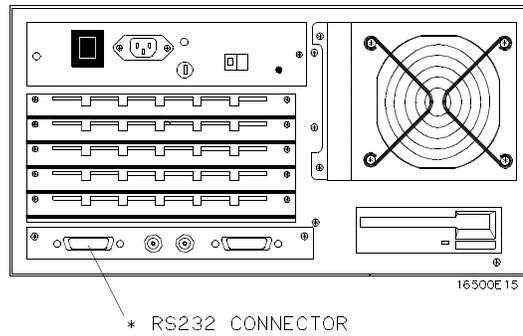

Figure 7-5. HP 16500A Rear Panel.
- The HP QuietJet series printers have two banks of mode function switches inside the front cover. Push all the switches down to the "0" position as shown in figure 7-5.